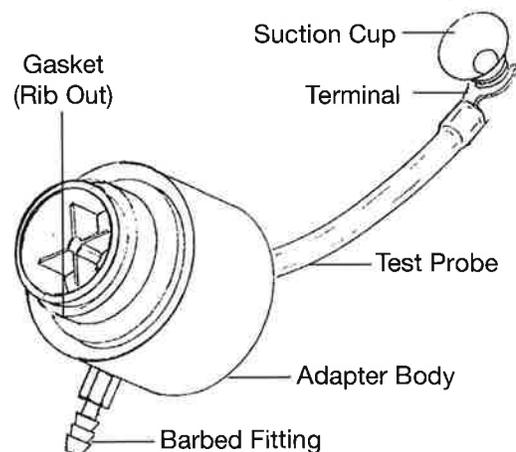

Figure 3
- 3) Remove the suction cup from the 7700-21 Quantitative Fit-Test Adapter terminal and set it aside. The suction cup is not needed when the Facepiece Converter is used (See Figure 3).